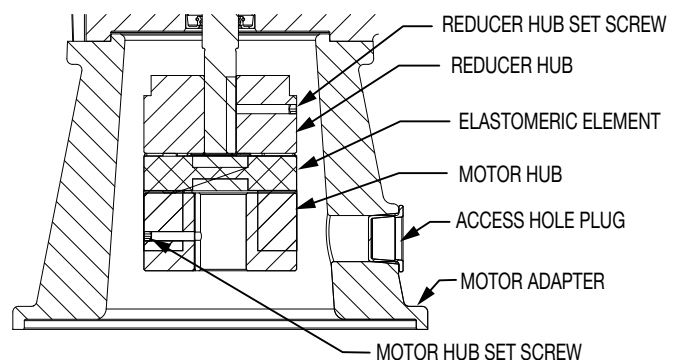
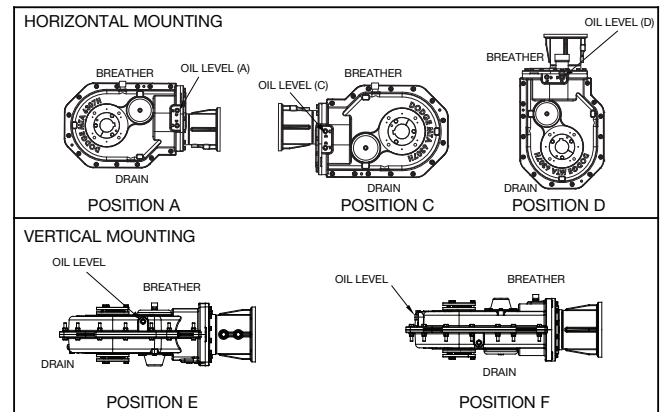

Figure 1 - Motor / Reducer Coupling Assembly
Figure 2 - Mounting Positions, C-Face
2. Determine the running positions of the reducer. Although the reducer may be operated in any position, the preferred mounting position is with the motor in the horizontal position (Position C) as shown in Figure 2. Position B is not recommended. Note that the reducer is supplied with seven plugs; four around the sides for horizontal installations, two plugs on the front face and one plug on the back face for vertical installations. These plugs must be arranged relative to the running positions as follows:
Horizontal Installations - Due to the many positions the MTA reducer may be oriented, the factory installed positions of the magnetic plug and breather may need to be relocated. The proper location for the magnetic plug is the hole closest to the bottom of the reducer. The filter breather is to be installed in the upper most hole. Of the two remaining plugs on the sides of the reducer, the highest plug is the minimum oil level plug as shown in Figure 2.
① Refer to Figure 2 for mounting positions
② Oil quantity is approximate. Service with lubricant until oil runs out of oil level hole as indicated per drawings in Figure 2
③ US measure: 1 quart = 32 fluid ounces = .94646 liters
④ Below 15 RPM output speed, oil level must be adjusted to reach the highest oil level plug. If reducer position is to vary from those shown in Figure 1, either more or less oil may be required. Consult Dodge.
⑤ Position B not shown OR recommended, check with factory
⑥ Position D breather kit (Part Number 472300) configuration should be used for best lubrication and oil level results.
The running position of the reducer in a horizontal application is not limited to the three positions shown in Figure 2. However, if running position is over 20° in position "D" or 5° in position "A" & "C", either way from sketches, the oil level plug cannot be used safely to check the oil level, unless during the checking, the torque arm is disconnected and the reducer is swung to within 20° for position "D" or 5° for position "A" & "C" of the positions shown in Figure 2. Because of the many possible positions of the reducer, it may be necessary or desirable to make special adaptations using the lubrication filling holes furnished along with other standard pipe fittings, stand pipes and oil level gauges as required.